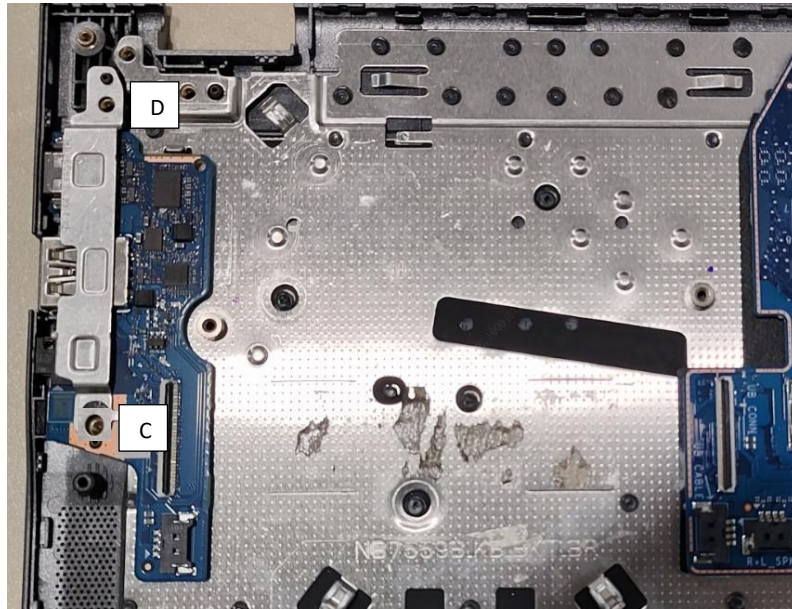

Figure 3-72. Replacing the USB Board
3. By aligning with the I/O port slot, slide and install the I/O bracket (C) onto the USB board. Ensure that the bracket is fully seated and secured to the guide pins (D) (Figure 3-72).